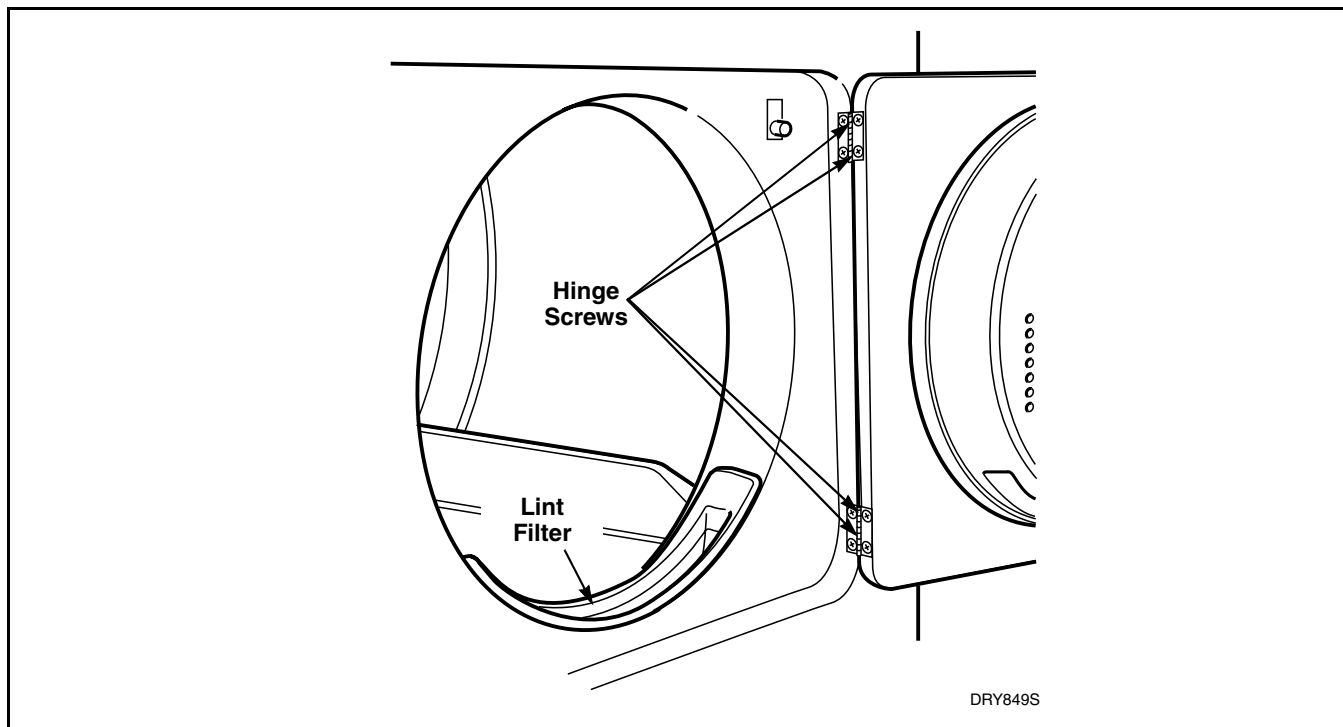

Figure 16
- a. Remove screws holding hinges to door. Refer to *Figure 16*.
Refer to *Figure 16*